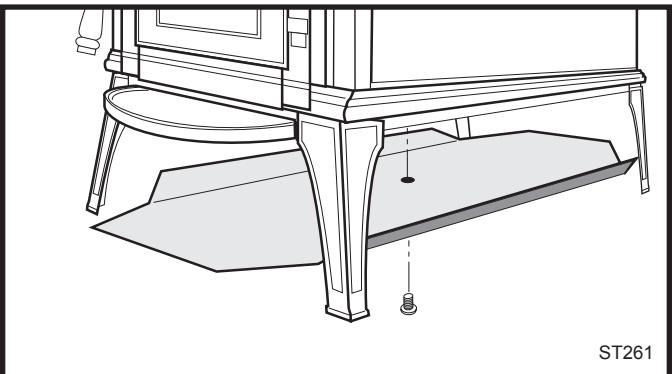

Fig. 27 Install the bottom heat shield.
- Remove the 1/4-20x 3/8" phillips screw from the central mounting boss in the stove bottom. (Fig. 27)